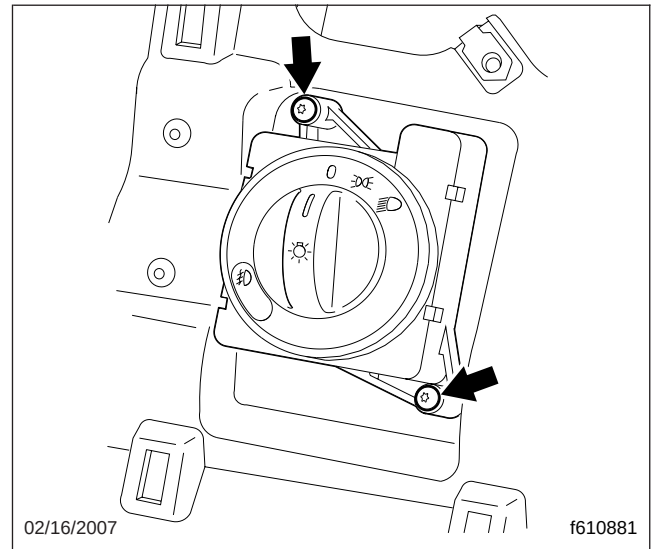

Fig. 2, Headlight Switch Fasteners
7. Remove the headlight switch, by removing the two Torx screws; see Fig. 2.